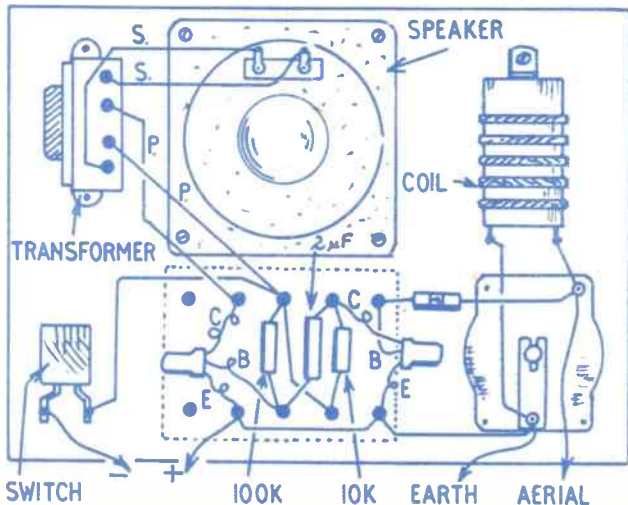

Fig. 3—Wiring plan
Wiring is shown in Fig. 3, parts being spaced out slightly to make connections
Transistors and other small parts are mounted on a tag board. These may be purchased new, or obtained from ex-service equipment. Or a small square of Paxolin, with eight small bolts, will be equally satisfactory. (Two tags on a 10-tag board are unused in Fig. 3.)
In Fig. 3 the transformer primary connections are marked (P) and the secondary, which is wired to the speech-coil tags of the speaker, is indicated by (S).
denser. The fixed plates tag or terminal is used for the aerial connection, as in Fig. 3.